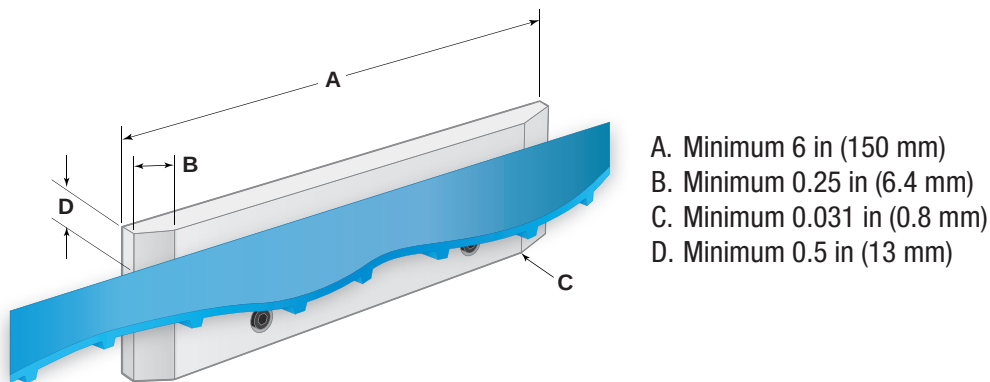

Figure 38
- At the carryway, mount belt containment blocks near the idle shaft (Figure 38).
- Countersink all fasteners below containment component surfaces to prevent belt contact with fasteners (Figure 38).
- Design vertical containment surfaces to be parallel to the carryway and perpendicular to the belt edge (Figure 38).